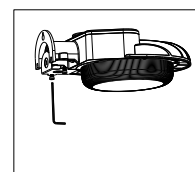

Figure 6
3. Tear down the wall installation accessories from the lighting fixtures by M6 hex wrench (Figure 6);